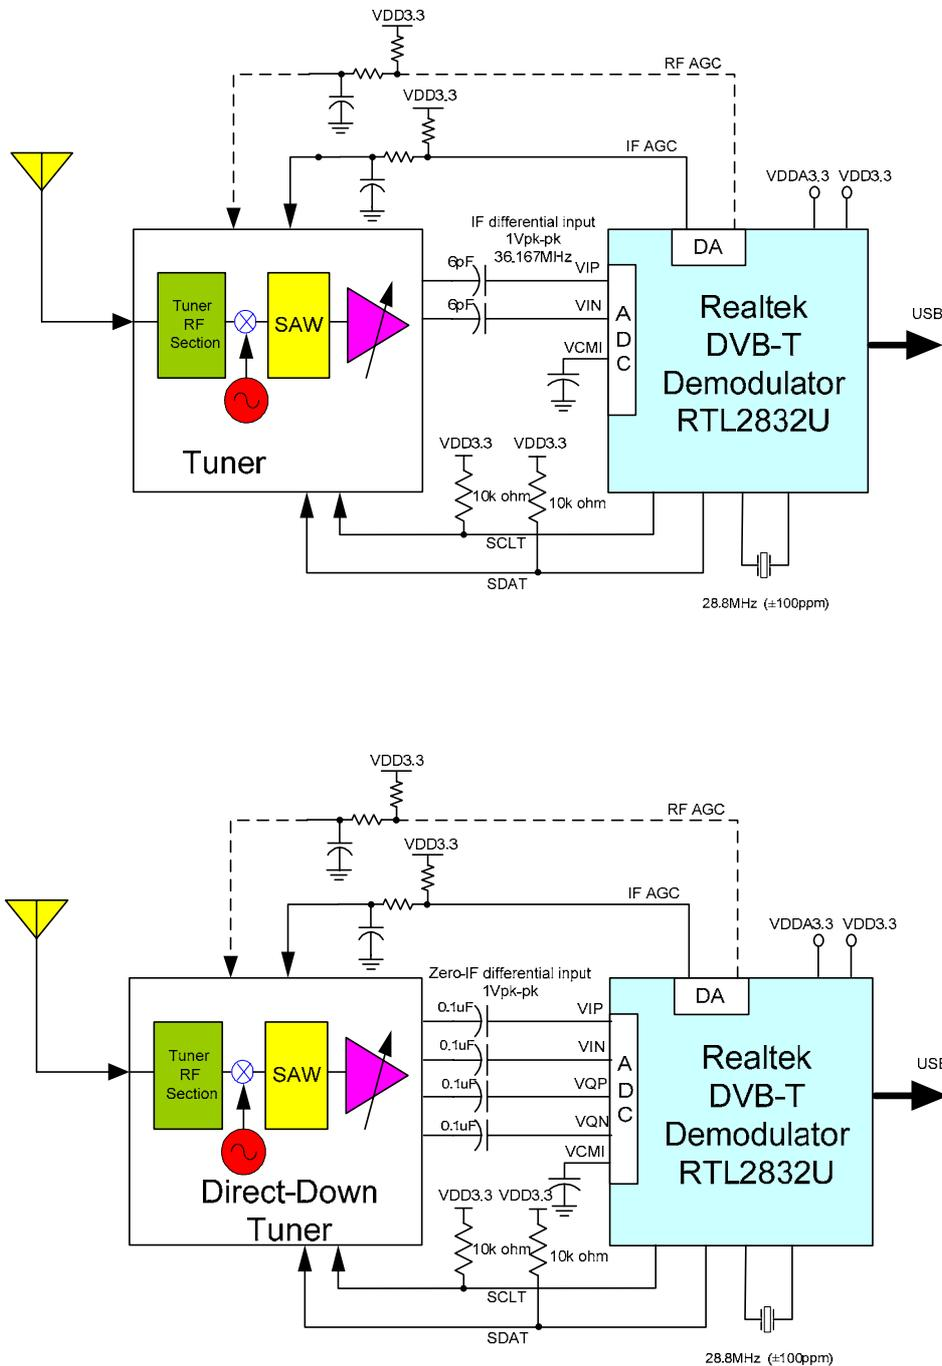

Figure 3. IF or Zero-IF Tuner Interface
Pins RF_AGC and IF_AGC are sigma-delta DAC output. An external Resistor/Capacitor (RC) low-pass filter and pull-high resistor should be placed on the PCB board to generate a quasi-DC control voltage to the tuner as shown in Figure 3, page 10.
Tuner IF or Zero IF output is AC coupled to the RTL2832U differential ADC input. An external AC coupling capacitor is required. The schematic is shown in Figure 3, page 10.